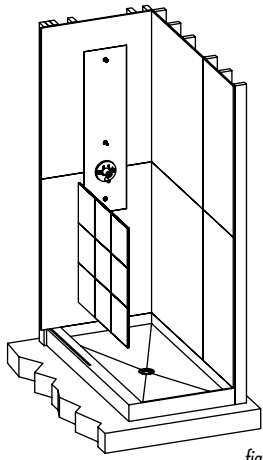

figure 19
1. Dry fit the shower wall panel 1B into position. Use 1/8" spacers between the shower pan and the bottom of the panel (Fig. 19). Center the back wall panels so the gaps on both sides are equal. The thickness of the side panels will cover these small gaps.